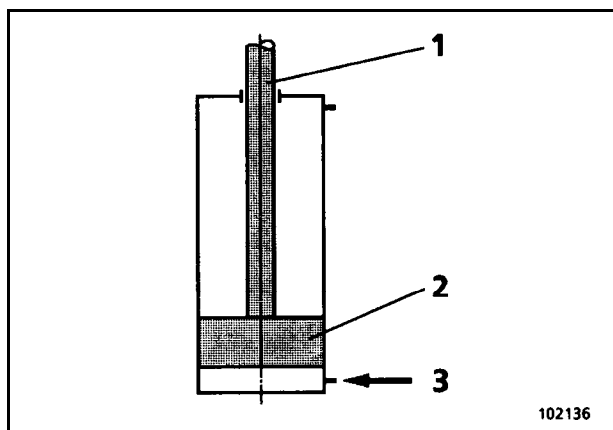
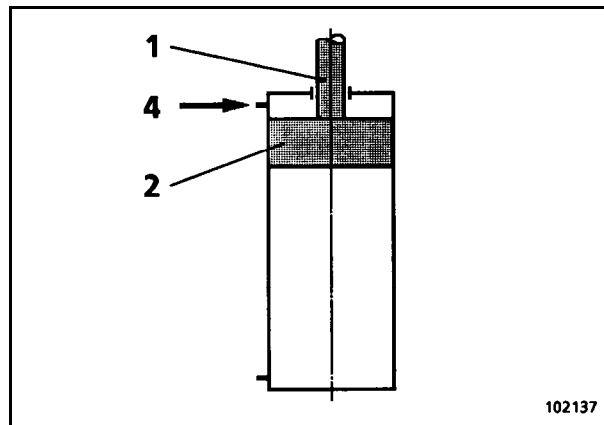

Fig. 3-100:
Fig. 3-101:
Before the initial admission of the cylinder with oil, the piston must be in either of the two extreme piston positions. In other words, the piston rod (1, Fig. 3-100: and Fig. 3-101:) must be either completely retracted or completely extended.
- the piston-side port (3) when the piston rod is retracted (1, Fig. 3-100:),
- the rod-side port (4) when the piston rod is extended (1, Fig. 3-101:).